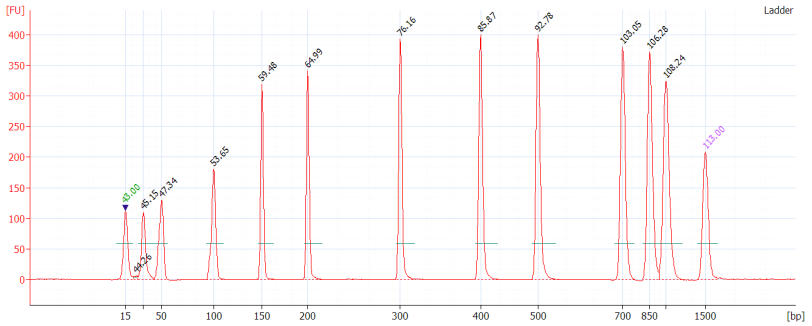

Figure 8: Ladder electropherogram (Bioanalyzer)
3. Verify that the ladder plot profile looks similar to Figure 8 below and contains 13 peaks with the lowest at 15 bp and the highest at 1,500 bp (these are the markers that will be present in every sample read) with a flat baseline (see Figure 8).